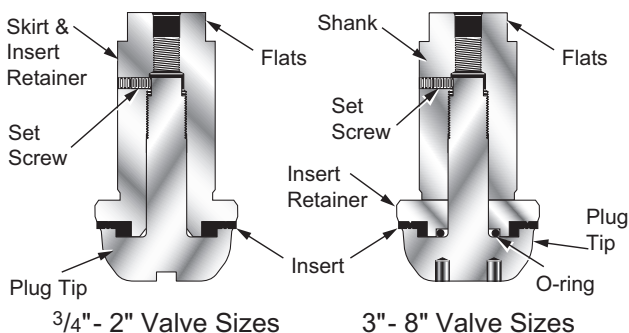

Figure 2 - Soft Seat Plugs (optional)
(Figure 2 on page 15)
- a. Place new insert on shank and insert retainer as shown in Figure 2 on page 15.
- b. Install new insert on insert retainer and assemble as shown in Figure 2 below.